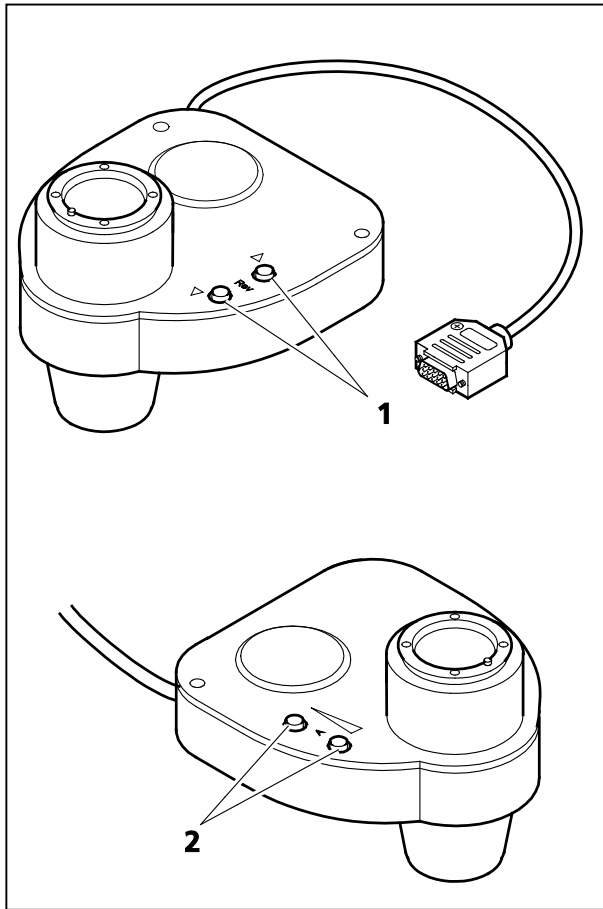

Fig. 67 LD condenser 0.55 H, Ph1, Ph2, Ph3, DIC, DIC; 6 positions, mot.
Motorized condensers (Fig. 67)
- The turret is moved by pressing the **Rev** Δ ∇ (forwards and backwards, Fig. 67/1) keys on the right side of the condenser
- Motorized aperture diaphragm operation using the **A** key (open and close, Fig. 67/2) on the left side of the condenser